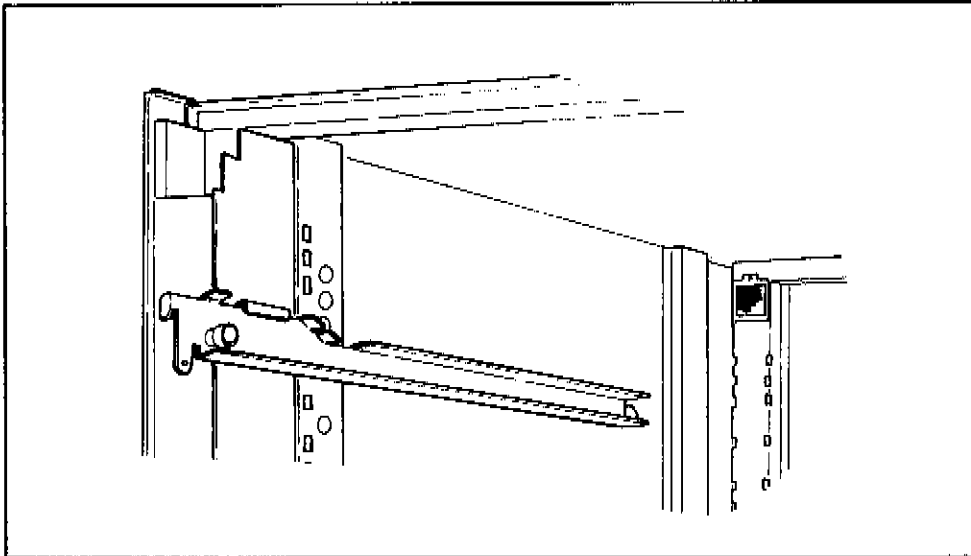

Figure S-13b
6. Insert the Guide Rail tabs into the Channel slots. See Figure S-13b.